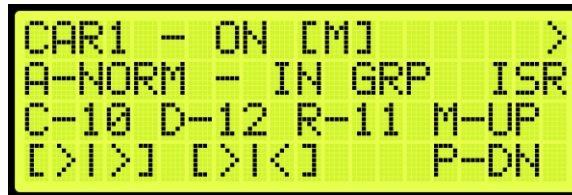

Figure 265: Car Data Overview Status
2. From the Car Data Overview Status (See Figure 265), press the right button.